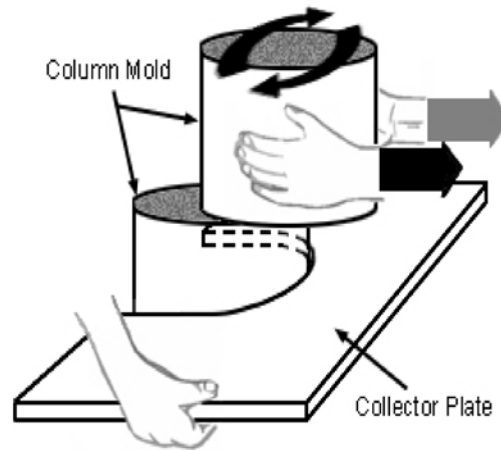

Figure 3. Horizontal Rotating and Twisting Action
6. Hold the collector plate around the column mold to collect the portion of the test specimen from the top section using a horizontal rotating and twisting action of the PVC pipe section (See Figure 3).